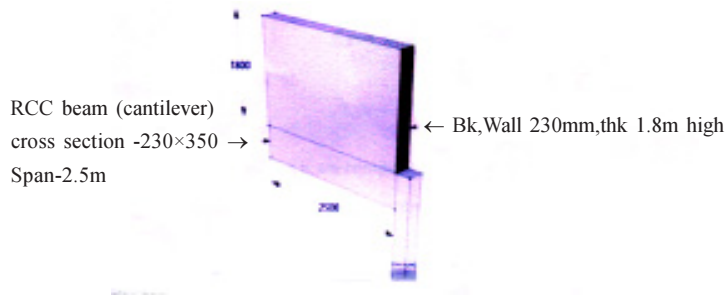

figure 5
**Q6) a)** Find support reactions for the beam in equilibrium, as shown in figure 5. [7]